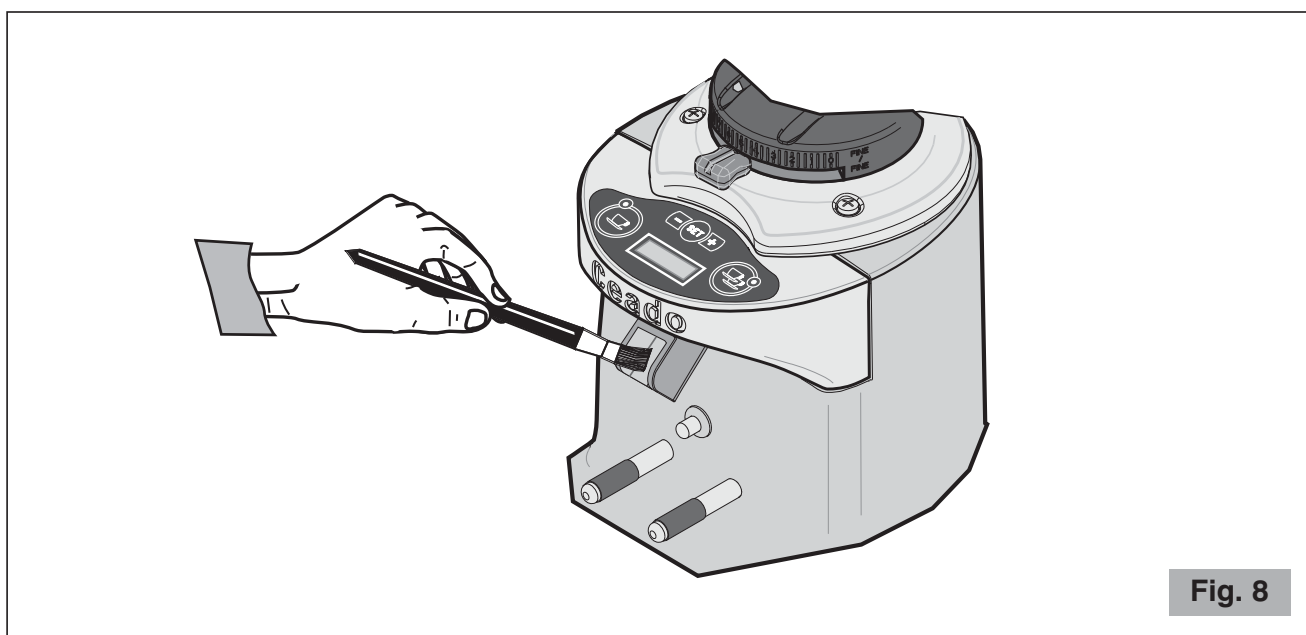

Fig. 8
- Use a brush or a paintbrush (Fig. 8) to clean the most hidden areas inside the unit and a dry cloth for the other surfaces.